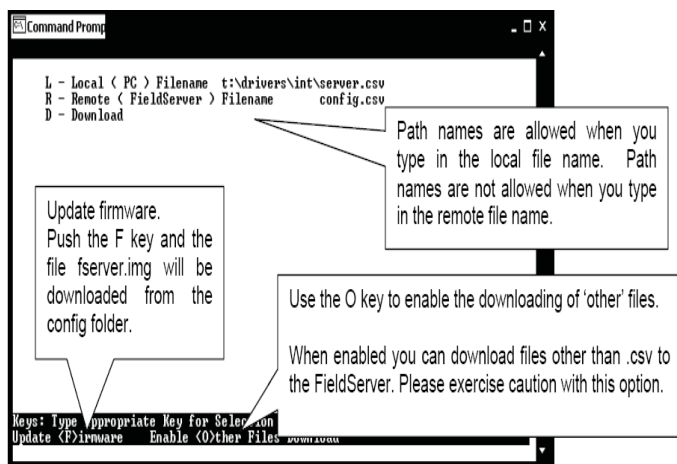

Figure 20: Download new Config.csv file
15.) At the next screen, (**Figure 20**), type <D> again.